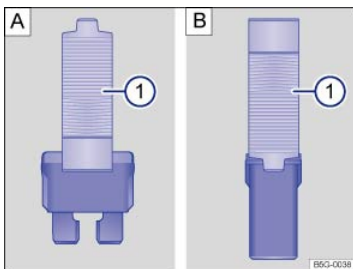

Fig. 234 Removing or installing a blade fuse with the plastic tweezers: : Blade fuse. : JCASE® fuse.
- Depending on the type of fuse, slide the tweezers ⇒ Fig. 234 A ① or ⇒ Fig. 234 B ① onto the fuse from the side.
- If the fuse is blown, replace the fuse with a new fuse of the *same* amperage (same color and same imprint) and *same* size ⇒ ①.